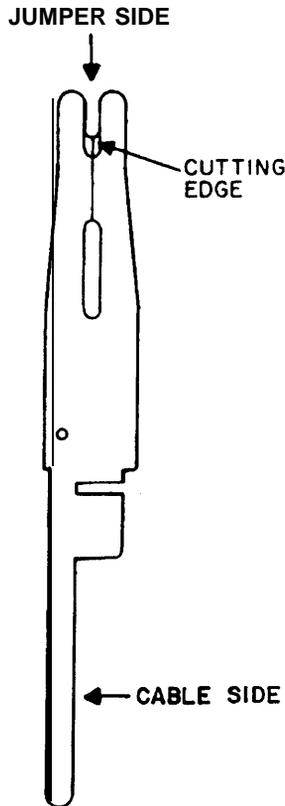

Figure 2. Single-Clip Quick-Connect Terminal (E F-50234-A).
2.01 The single-clip quick-connect terminal block, shown in Figure 1, is constructed of a molded plastic material. It is equipped with 100, removable, tin-plated, single-clip quick-connect type terminals (see Figure 2). The terminals are arranged in 10 rows with 10 clips in each row. The clips are designed for use with 22 gauge wire. A slotted fanning strip is provided on each side of the block to form solderless wrap terminals on the rear of the block. This block provides a cross-connection (jumpering) capacity of 50 pairs.